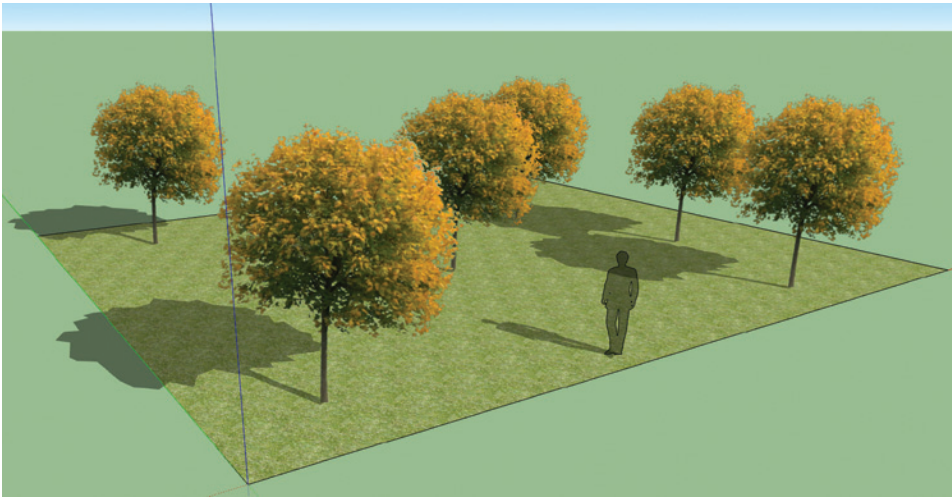

Figure 5.90: Finished face-me tree component in SketchUp
17. When you click on Create, your new face-me tree component has been created (see **Figure 5.90**). Orbit around your model and see that the tree component behaves properly. Also, add a few more component instances from the Components window (or by copying them).